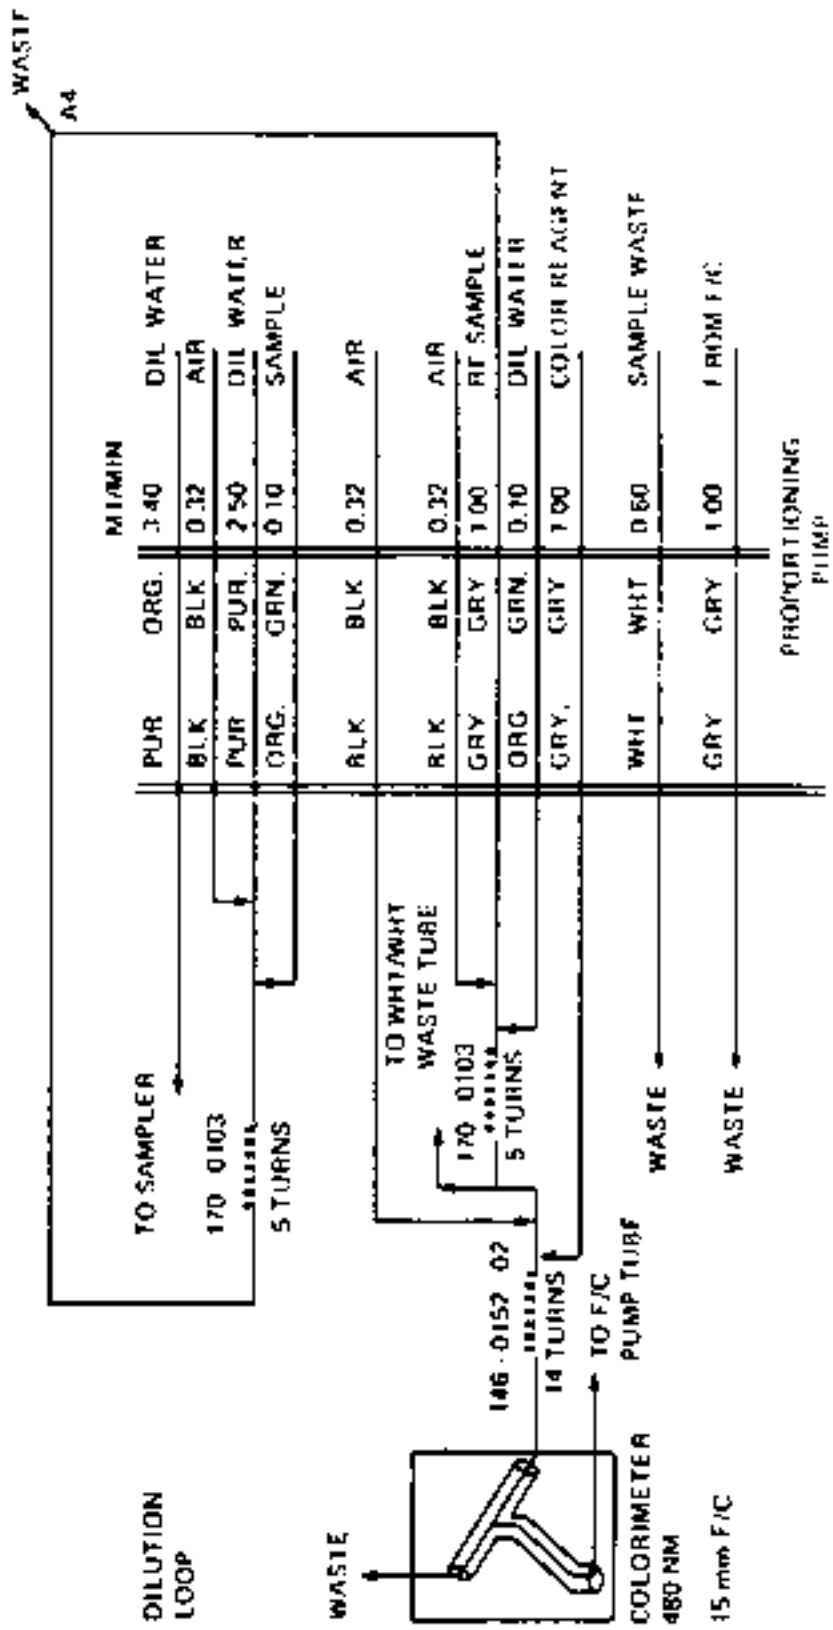

Figure 1. Chloride Manifold AA II 0 200 mg Cl/L.
7.1 When particulate matter is present, the sample must be filtered prior to the determination. The sample may be centrifuged in place of filtration. Set up the manifold, as shown in Figure 1.